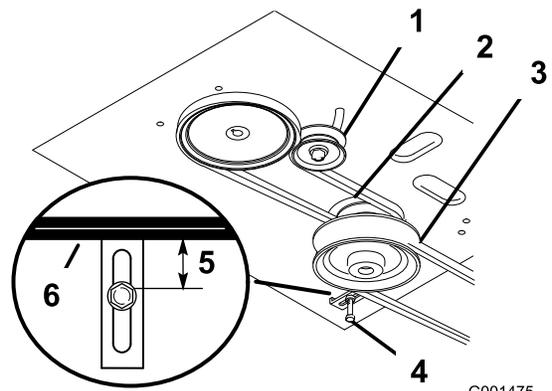

Figure 45
8. Check the belt guide under the engine frame for proper adjustment (Figure 45).
Note: The distance between the belt guide and the mower belt should be 3/4 inch (19 mm) when you engage the mower belt (Figure 45). Adjust the mower belt as necessary. The disengaged belt should not drag or fall off the pulley when the guides and belt tension are properly adjusted.